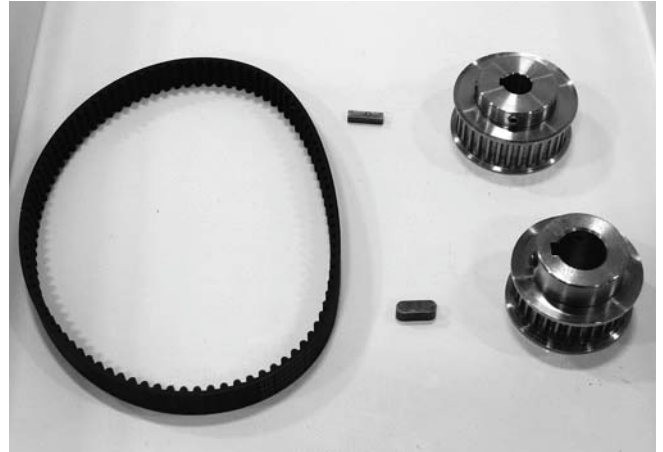

Figure 42
5. Replace components, as needed (**Figure 42**).